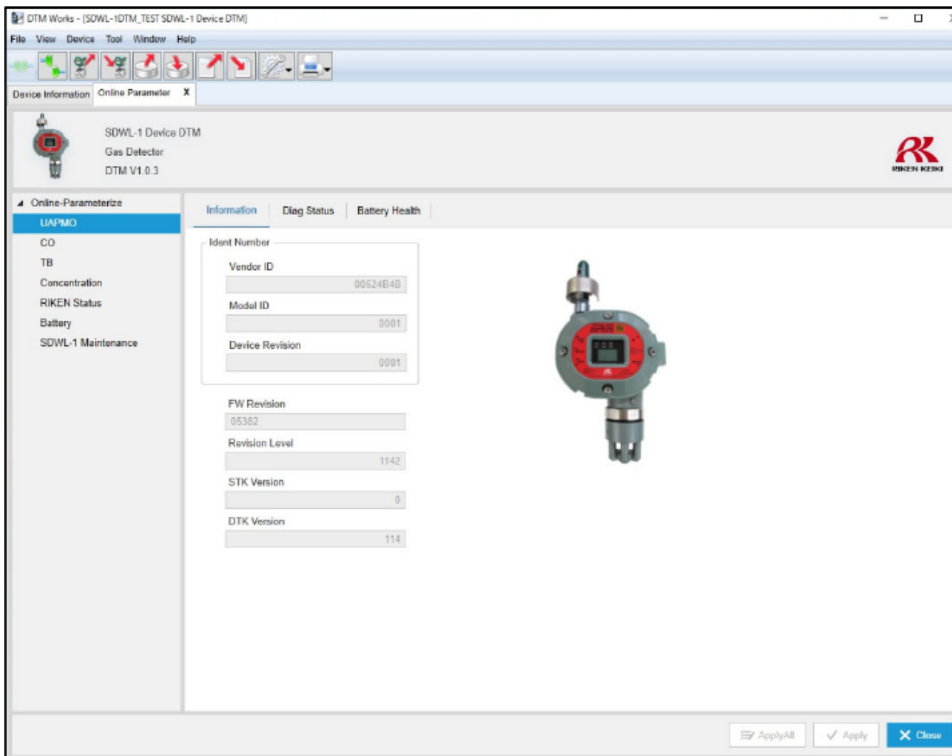

Figure 5-14 DTM Works (normal window)
- ① Once DTM Works is launched, the window shown in Figure 5-14 below is displayed. Parameter loading starts automatically. Parameters can then be checked and configured.